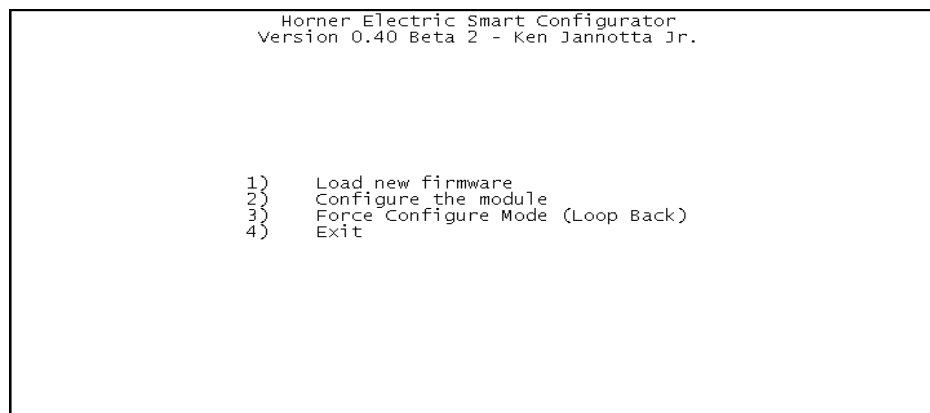

Figure 3 – Startup Screen
2. A startup screen will appear (see Figure 3 above). Press the "2" key to configure the module.